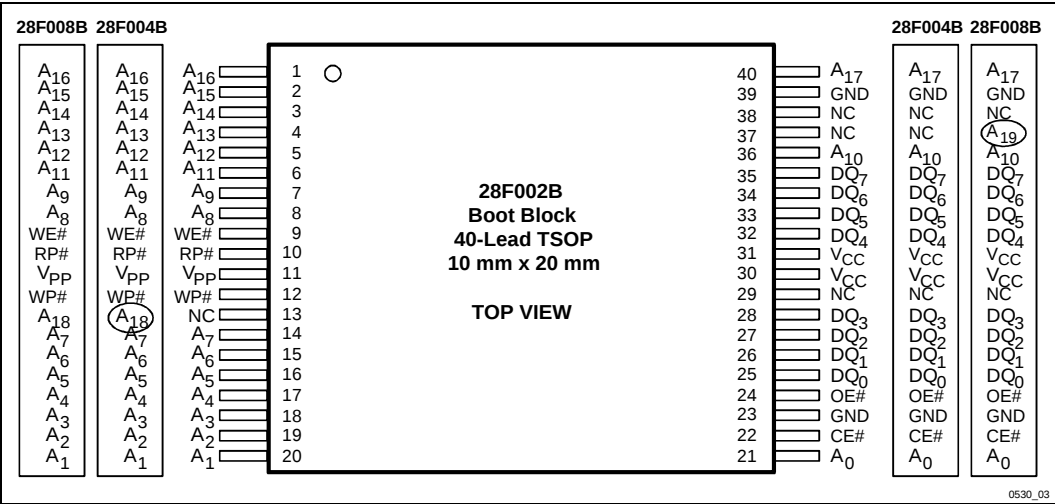
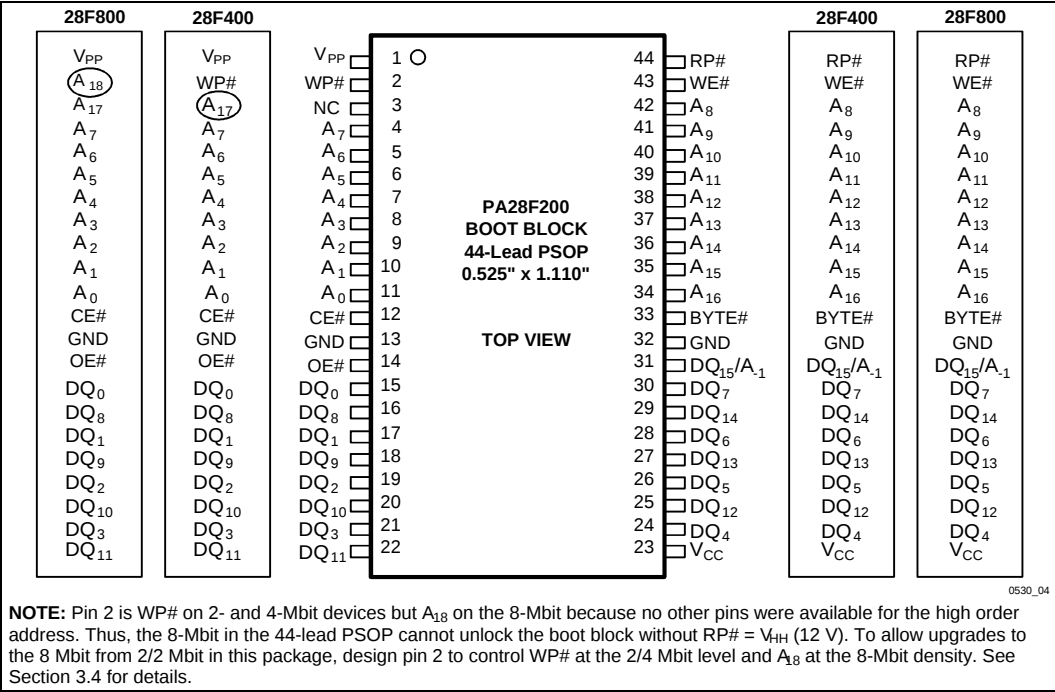
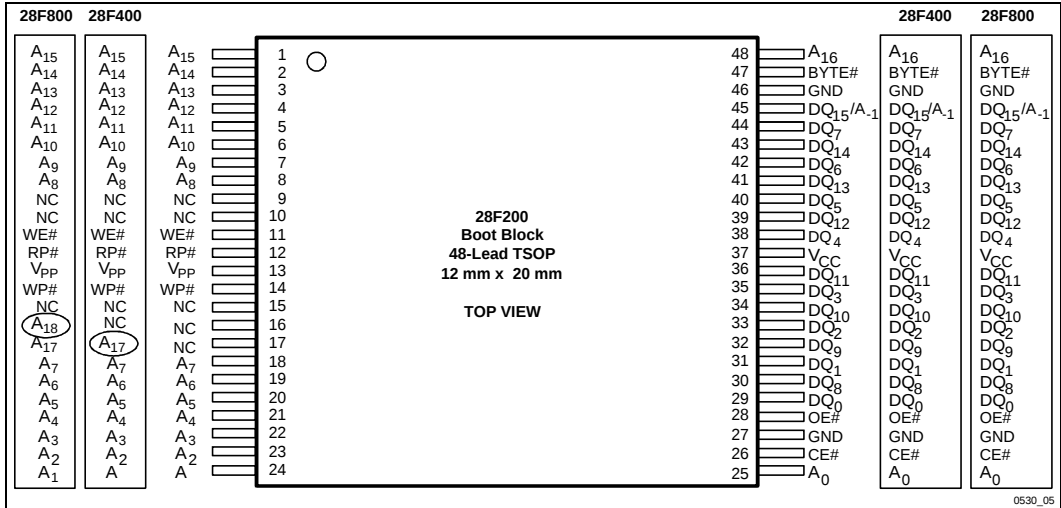
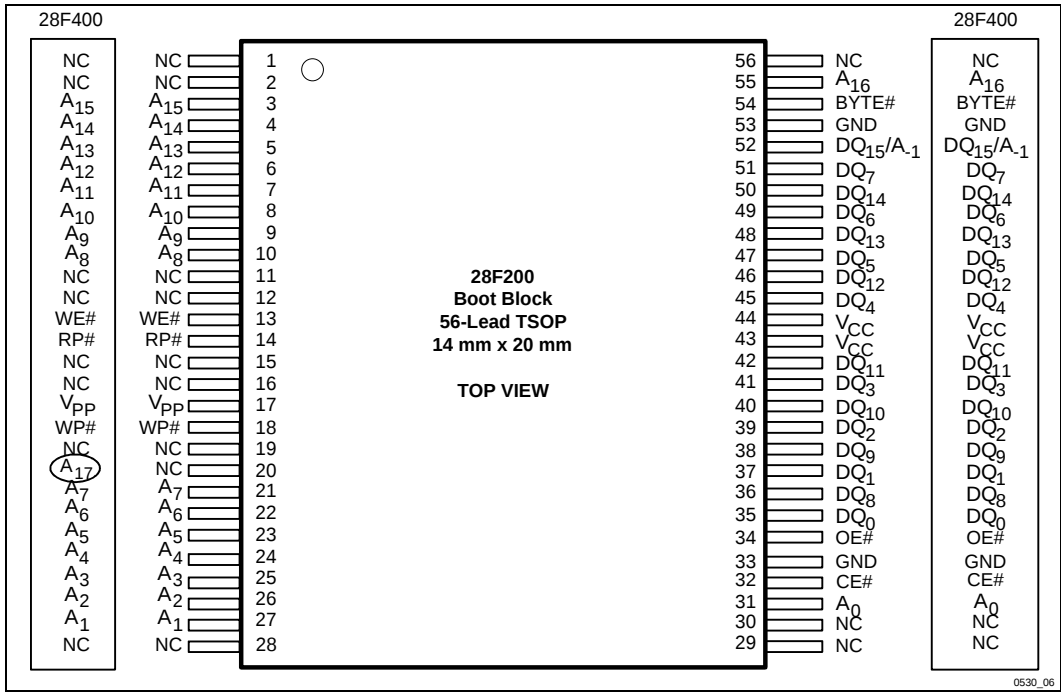

Figure 3. The 40-Lead TSOP Offers the Smallest Form Factor for Space-Constrained Applications
Figure 4. The 44-Lead PSOP Offers a Convenient Upgrade from JEDEC ROM Standards
Figure 5. The 48-Lead TSOP Offers the Smallest Form Factor for x16 Operation
Figure 6. The 56-Lead TSOP Offers Compatibility between 2 and 4 Mbits
-002	Status changed from Product Preview to Preliminary 28F200CV/CE/BE references and information added throughout. 2.7 V CE/BE specs added throughout. The following sections have been changed or rewritten: 1.1, 3.0, 3.2.1, 3.2.2, 3.3.1, 3.3.1.1, 3.3.2, 3.3.2.1, 3.3.3, 3.3.4, 3.6.2. Note 2 added to Figure 3 to clarify 28F008B pinout vs. 28F008SA. Sentence about program and erase WSM timeout deleted from Section 3.3.3, 3.3.4. Erroneous arrows leading out of error states deleted from flowcharts in Figs. 9, 10. Sections 5.1, 6.1 changed to "Applying V_{CC} Voltages." These sections completely changed to clarify V_{CC} ramp requirements. I_{PPD} 3.3 V Commercial spec changed from 10 to 5 μA. Capacitance tables added after commercial and extended DC Characteristics tables. Test and slew rate notes added to Figs. 12, 13, 19, 20, 21. Test configuration drawings (Fig. 14, 22) consolidated into one, with component values in table. (Component values also rounded off). t_{ELFL}, t_{ELFH}, t_{AVFL} changed from 7 to 5 ns for 3.3 V BV-60 commercial and 3.3 V TBV-80 extended, 10 to 5 ns for 3.3 V BV-80 and BV-120 commercial. t_{WHAX} and t_{EHAX} changed from 10 to 0 ns. t_{PHWL} changed from 1000 ns to 800 ns for 3.3 V BV-80, BV-120 commercial. t_{PHEL} changed from 1000 ns to 800 ns for 3.3 V BV-60, BV-80, and BV-120 commercial.
-005	Corrections: Figure 4, corrected pin designation 3 to "NC" from A₁₇ on PA28F200. Corrected typographical errors in Ordering Information. Added New Design Recommendations section to cover page. Updated Erase Suspend/Resume Flowchart
The 28F200 products are available in a ROM/EPROM-compatible pinout and housed in the 44-lead PSOP (Plastic Small Outline) package, the 48-lead TSOP (Thin Small Outline, 1.2 mm thick) package and the 56-lead TSOP as shown in Figures 4, 5 and 6, respectively. The 28F002 products are available in the 40-lead TSOP package as shown in Figure 3.
Intel's SmartVoltage Boot Block architecture provides upgrade paths in every package pinout to the 4 or 8-Mbit density. The 28F002B 40-lead TSOP pinout for space-constrained designs is shown in Figure 3. The 28F200 44-lead PSOP pinout follows the industry-standard ROM/EPROM pinout, as shown in Figure 4. For designs that require x16 operation but have space concerns, refer to the 48-lead pinout in Figure 5. Furthermore, the 28F200 56-lead TSOP pinout shown in Figure 6 provides compatibility with BX/BL family product packages.
This product family features an asymmetrically-blocked architecture providing system memory integration. Each erase block can be erased independently of the others up to 100,000 times for commercial temperature or up to 10,000 times for extended temperature. The block sizes have been chosen to optimize their functionality for common applications of nonvolatile storage. The combination of block sizes in the boot block architecture allow the integration of several memories into a single chip. For the address locations of the blocks, see the memory maps in Figures 4 and 5.